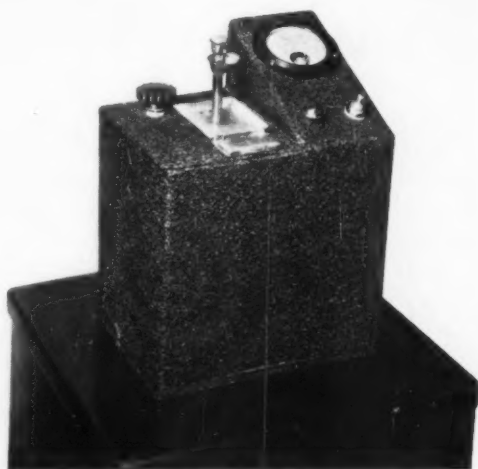

Fig. 7—Oil flowing between two glass panes is tested for sediment by a photoelectric cell
**A**LMOST incomprehensible is the scope of the vacuum tube in industry. Sorting, inspection, gaging, controlling and testing are being increasingly accomplished more efficiently by the photoelectric method. Now an electronic device makes it possible to determine proportionately the amount of sediment in oil. R. D. McDill, industrial electronics engineer, Cleveland, is the inventor of the unit, illustrated in Fig. 7.